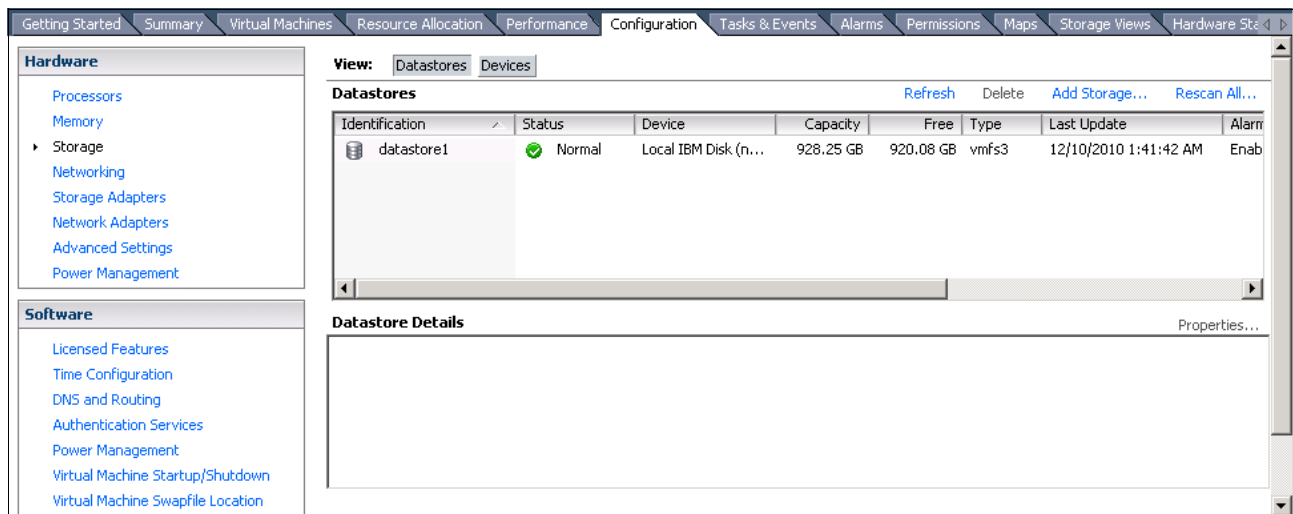

Figure 12-54 Add Storage menu
- Go to the storage view shown in Figure 12-54 and click **Add Storage**.